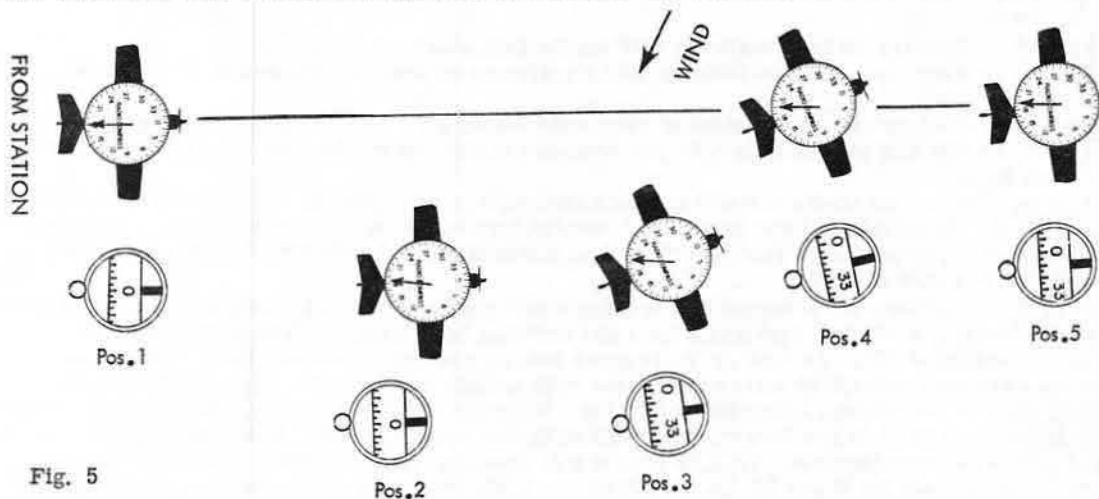

Fig. 5
**HOW DO YOU TRACK OUTBOUND?** -- (Fig. 5) The procedures are basically the same as for inbound tracking. The main difference is that the ADF needle moves further away from the 180° position as the change of heading is made toward the desired track.